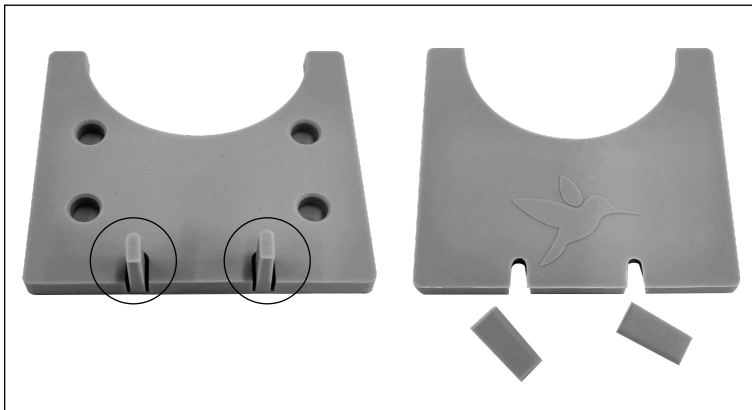

Figure 5
7. Tear off the bottom two tabs for the cable access door (**Figure 5**).